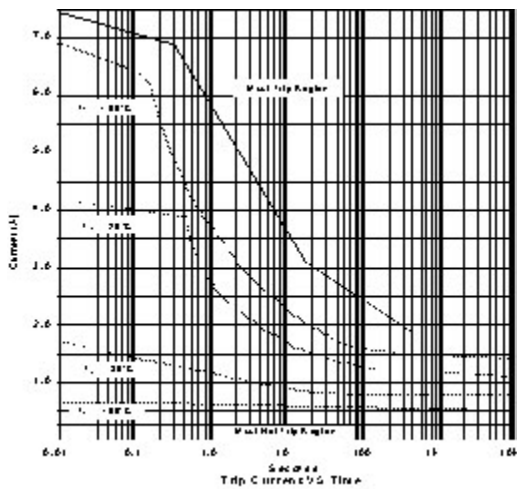

Figure 6
The instantaneous load current is monitored and the protection will be triggered if the load current exceeds a predetermined value for a specified time duration. The higher the current the shorter the time for the protection to be activated. Figure 6 is a plot of the overload current response transfer function.
This curve displays the current level and time duration that will trigger a turn-off from the overload circuit. It also shows different curves for 25\_C, 85\_C, 105\_C and -55\_C operations. The response is completely controlled by the current sense in the very short time response area. As time increases on the response curve, the importance of the junction temperature intensifies. This is true until in the area where time is long the response is equally controlled by the junction temperature measurement and the current monitor. When the junction temperature reaches a predetermined value the relay will turn-off. The trip point of the junction temperature is set such that it would only be reached if the output load conditions were abnormal. The trip point is low enough that there is a reasonable margin before electrical damage to the switch could occur. The curve in Figure 6 covers overload response times from 0.01 seconds to basically infinity. For very large short circuit currents different response curves apply.
- Diodes in the bridge circuit must have a minimum average current rating of 1.0A per diode and should have a peak transient current rating consistent with the diode current values shown in Figures 6 and 7.